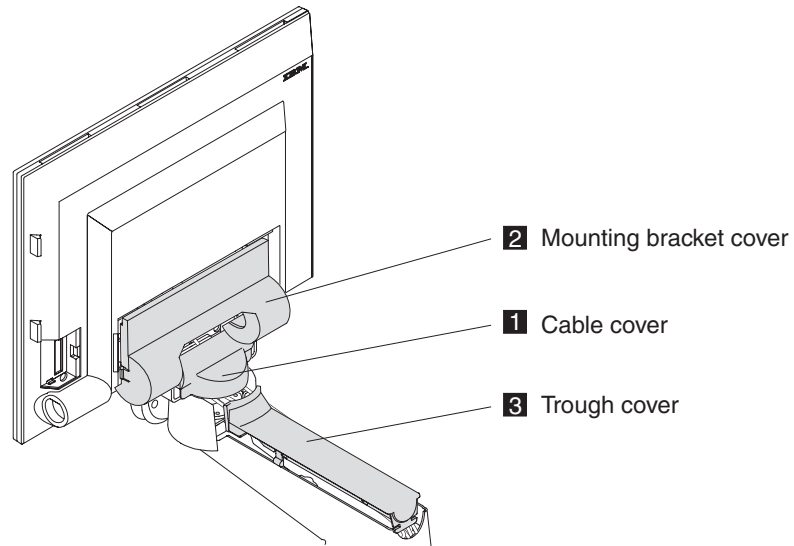

Figure 24. Distributed pedestal covers
- a. Attach the cable cover ( **1** in Figure 24) to the mounting bracket, snapping the tabs on the sides of the cover into the small holes on the sides of the bracket.
- b. Attach the mounting bracket cover ( **2** in Figure 24) to the back of the display. Slide the tabs on the cover into the appropriate slots in the back of the display and snap into place.
- c. Position the trough cover ( **3** in Figure 24) over the trough of the distributed pedestal. Press on the trough cover until it snaps into place.